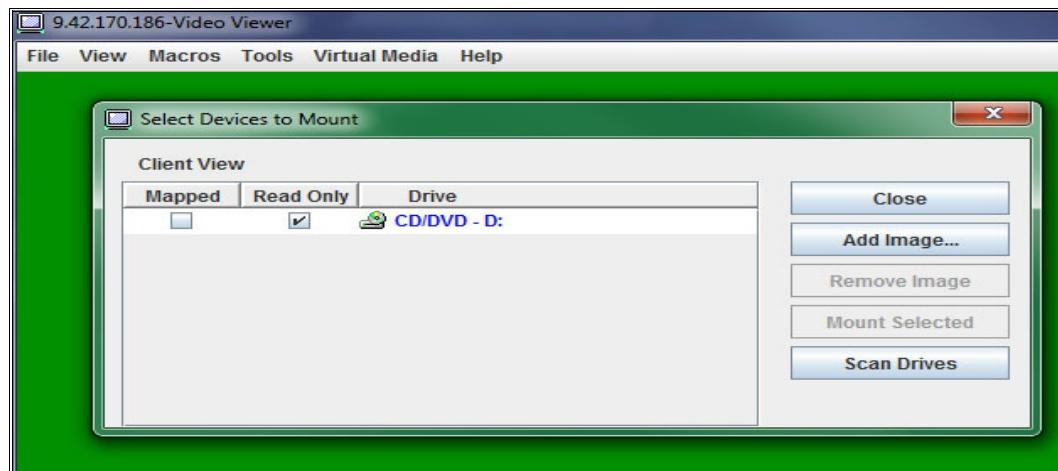

Figure 5-7 The Select Devices to Mount panel
- Now, with virtual media active, from the Virtual Media drop-down menu, click **Select Devices to Mount** to bring up the Select Devices to Mount panel shown in Figure 5-7.